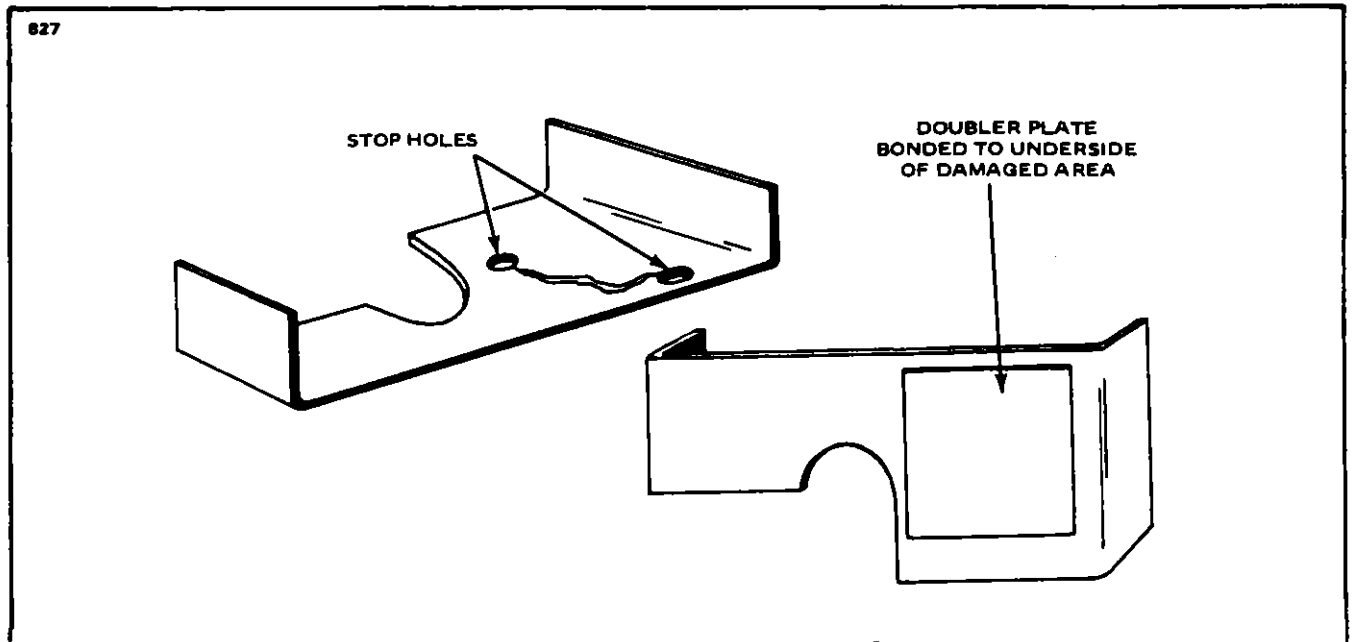

Figure 4-18. Repairing of Cracks
d. Cracks: (Refer to Figure 4-18.)